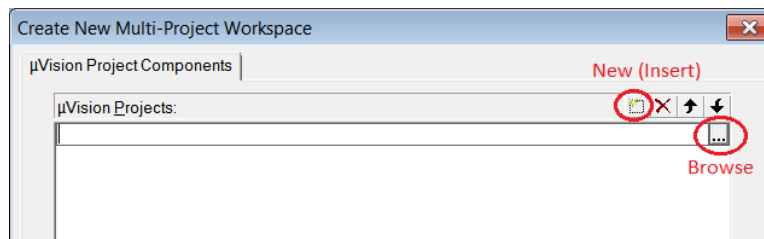

Figure 2.21: Keil IDE: Adding a  $\mu$ Vision Project into Workspace
3. A new dialogue box will pop up to ask you add  $\mu$ Vision projects into the workspace. Click the New button to start adding a project and click the Browse button to select a project file (see Figure 2.21).